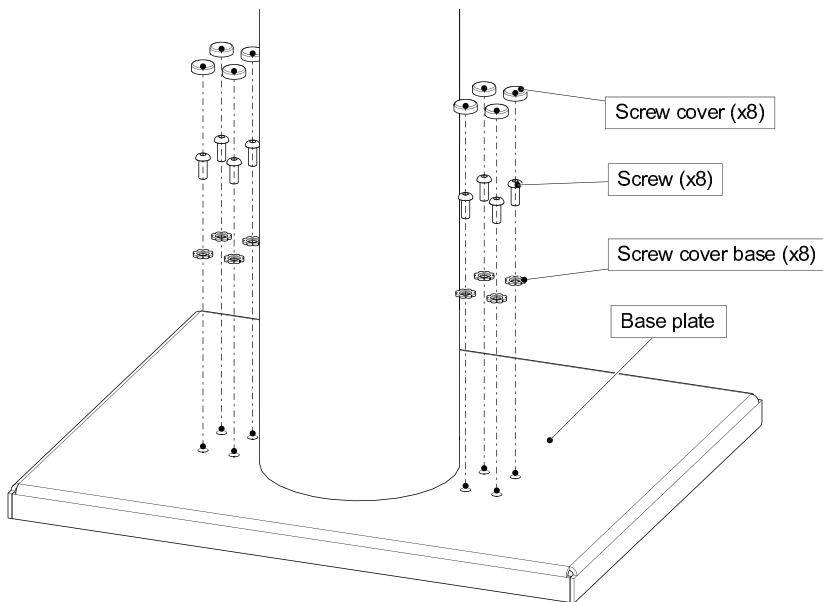

Figure 8: Attach the stand to the base plate
3. Secure the stand onto the base plate using the screw cover bases, screws, and screw covers as show in Figure 8.